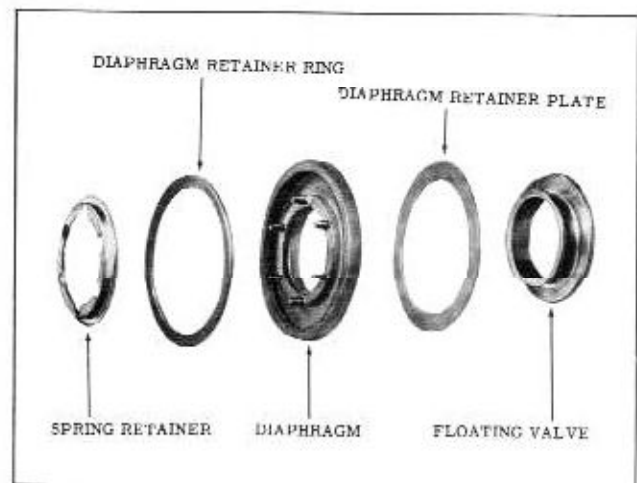

Fig. 7-24 Floating Valve Assembly
5. Disassemble the floating valve. (Fig. 7-24)
5. Assemble the floating valve as follows: (Fig. 7-24)